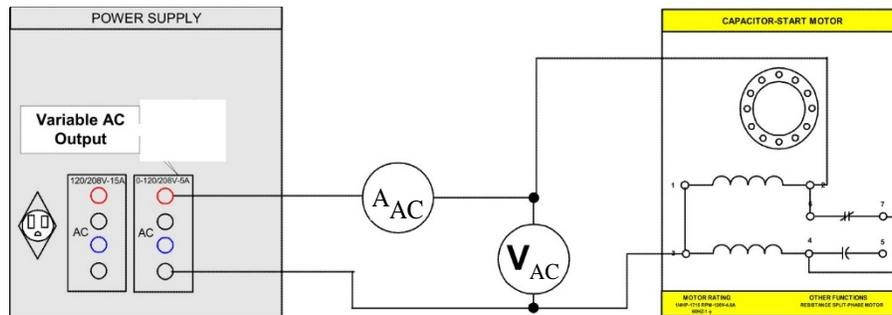

FIGURE 8.12
Step 30: Using your Data Acquisition Interface (DAI) modules in the EMS workstation, connect the circuit shown in Figure 8.12.